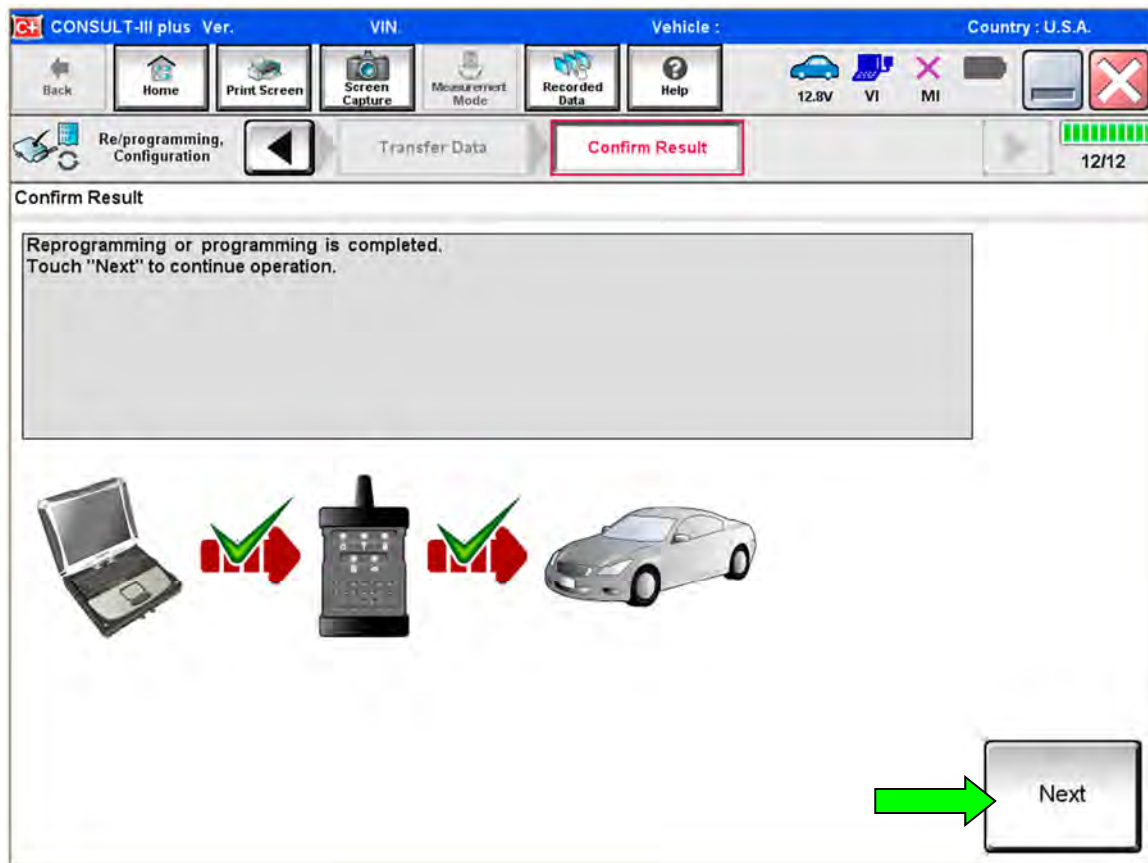

Figure 36
32. When the screen in Figure 36 displays, reprogramming is complete.
NOTE: If the screen in Figure 36 does not display (indicating that reprogramming did not complete), refer to the information on the next page.